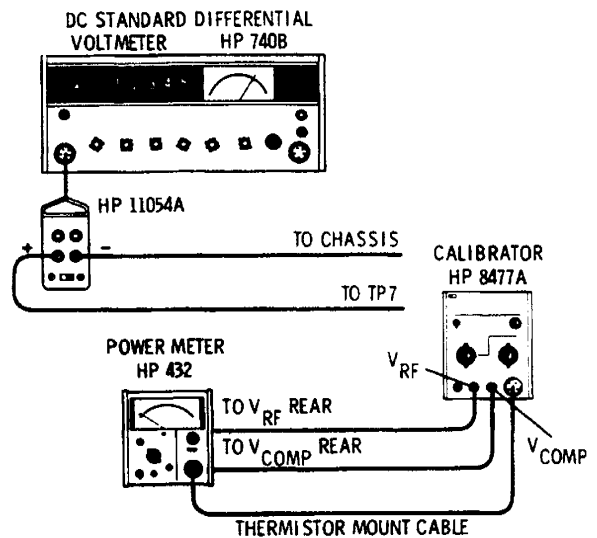

Figure 3.  $V_{comp}$  Check Test Setup
e. Connect the equipment as shown in Figure 3.